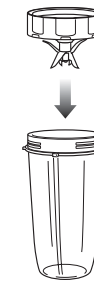

Fig. 2
- 5 Align and lower the Pitcher onto the motor base. **(Fig. 2)** Handle should be aligned slightly to the right of the "LOCK" symbol on the motor base.
- 4 Place the Pro Extractor Blades Assembly onto the cup and tightly screw it on clockwise until you have a good seal. (Fig. 2)